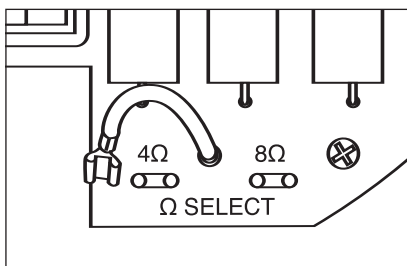

Figure 15 Setting the Impedance jumper.
2. Check the position of the Impedance jumper on the crossover PC board. Choose the 4 ohm position if you are using an amplifier capable of driving a 4 ohm load and you have only one pair of speakers connected. Otherwise, use the 8 ohm position (**See Figure 15**).